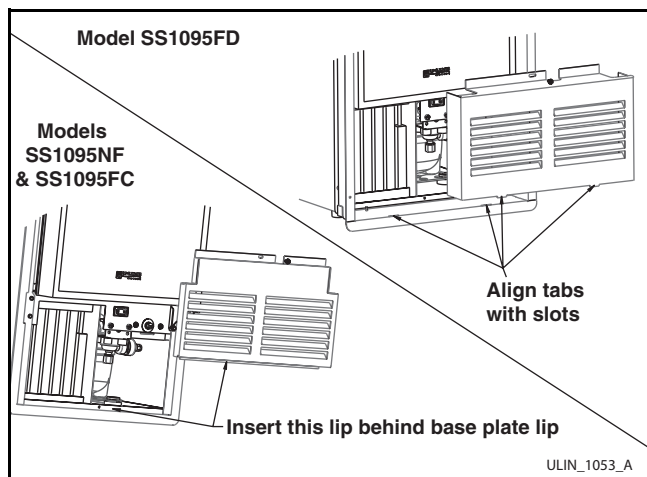

Figure 9
5. Depending on your model, follow the instructions for installing the grille (**Figure 9**).
Align the grille and cabinet screw holes (**Figure 9**).
9. Depending on your model, follow the instructions for installing the grille (**Figure 9**).